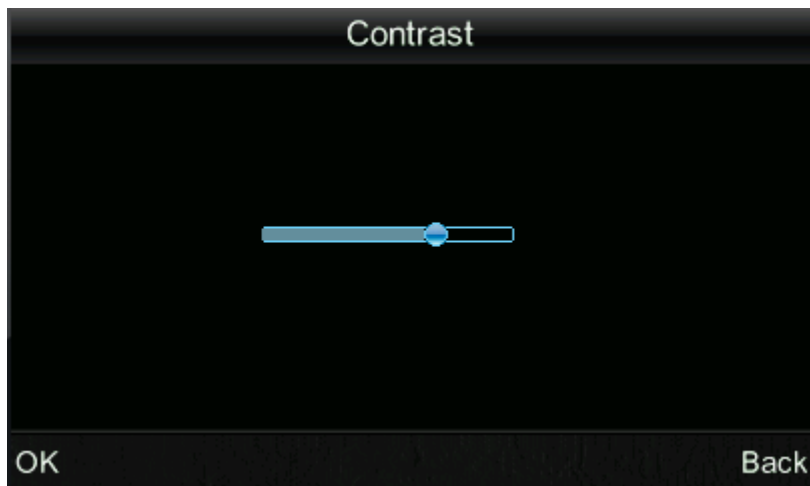

Figure 54 Brightness Setting Interface
- f) Select “Settings” - “Brightness Setting” to enter an interface shown in Figure 54. This interface is used to set the backlight brightness to help users to use this instrument in different environments.